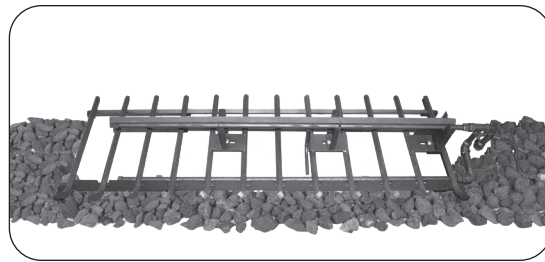

Fig. 12-1 Place lava coals
1. Spread the lava coals on the floor of the fireplace, around the front and sides of the burner system (see Fig. 12-1).